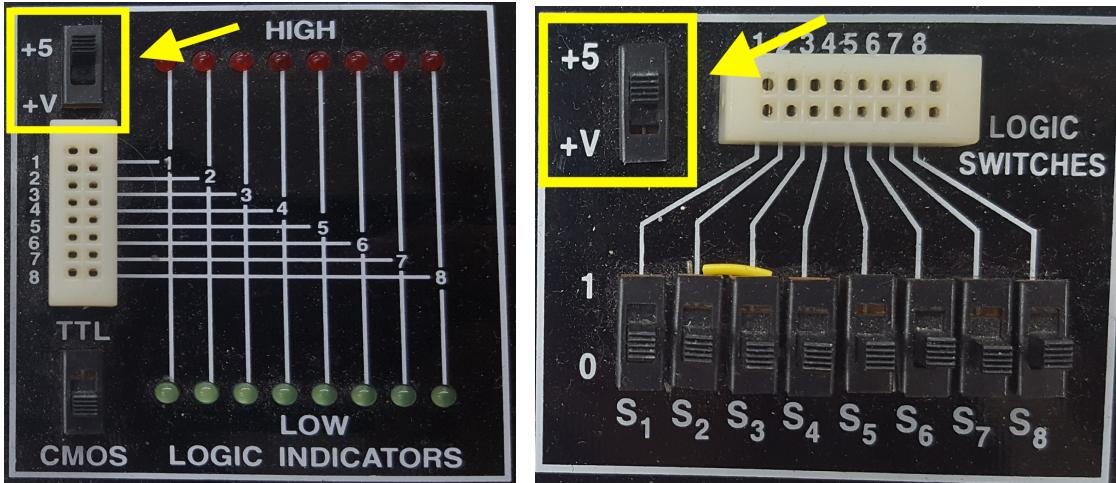

Figure 3: Logic Indicators and Switches.
- *Global Specialties Breadboard:* Use the ohmmeter mode of the multimeter to confirm that horizontal rows of five holes are connected. Vertical columns of five holes are connected and intended for power and ground, but note that the top and bottom half of each column is not connected on this breadboard, making it easy to accidentally not power your circuits. Refer to the video for a demonstration. You can apply inputs using the logic switches and check outputs using the logic indicators shown in Figure 3. Be sure to configure the switches and indicators for 5 volt CMOS levels by making sure the voltage switches are both in the +5 volt position (not variable voltage) and the logic family switch is in the CMOS position. Refer to the video for a demonstration.